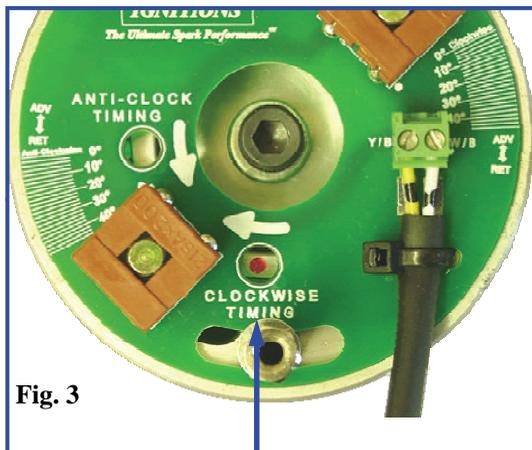

Fig. 3
11. Slacken the centre bolt (¼" UNF) using a 3/16" hex key and position the rotor until one of the red indicator marks can be seen through the appropriate static timing hole (clockwise for most machines) in the trigger plate, with the plate positioned midway on its adjustment slots. **See figs. 3/4 on page 9.** [The magnetic rotor centre thread (metric M8) is provided for attaching a puller, if the rotor should need to be removed for engine servicing, etc.]